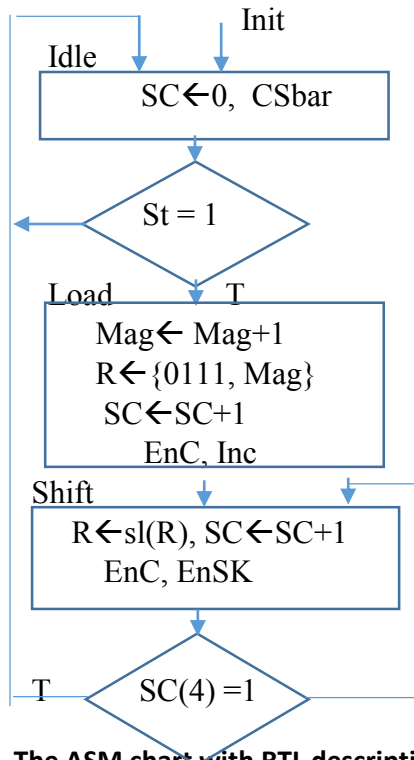

Figure 4. The ASM chart with RTL description
The counters have active-high synchronous inputs Clear (clr), Enable (en) taken at **positive** clock edges and 8-bit output (count). The PISO register has 12 data inputs loaded synchronously at **negative** clock edge with mode = 1, otherwise it shifts left with a fill-in of 0 to LSB from serial-in. The ASM chart is shown in Figure 4. The system inputs are St for start, Init (active high). The outputs are as follows: EnC to enable counter SC, EnSK to enable serial clock SCK, Inc to enable Mag increment and data load to register R. Outputs SCK and CSbar support serial communication with the DAC. SCK is formed from clock and EnSK. The counter runs for 17 periods. SCK runs for 16 periods (in the 1st clock period SCK is zero). The flip-flops and counters are cleared upon initialization. With St = 1 the processes of incrementing Mag, loading R and shifting it out to the DAC over 16 clock periods repeat as long as St = 1. The 3-state FSM for the controller can be implemented with 2 D-flip-flops and logic gates. One can use Verilog models for the counters and the register, gates from CAD library for flip-flop excitation and output forming logic. SC(4) is the bit of the counter to decode 16.